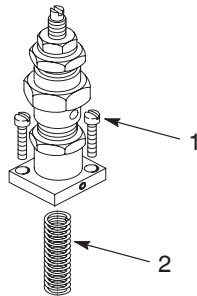

Figure 9-8 Removing the air cap assembly
2. See Figure 9-8. Remove the air cap assembly (2) from the top of the module. The large compression spring (3) may fall out when you remove the assembly.